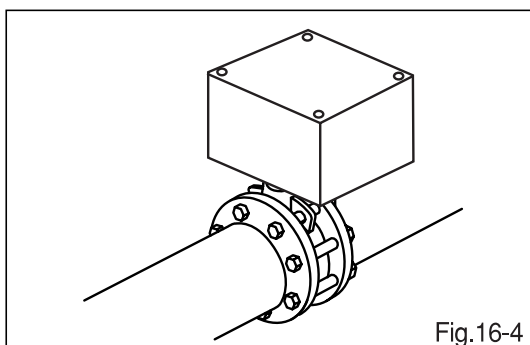

Fig.16-4
- **In case that actuator and valve is soused by corrosive fluid directly**, protect with protection cover. (Fig.16-4)